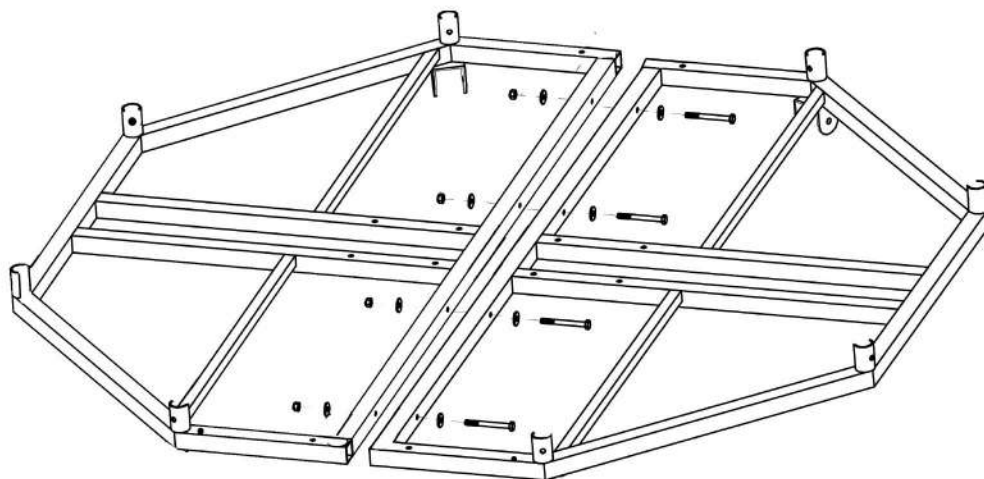

Figure 1.
Step 1. Bolt the 2 parts of the platform together using four 1/4" x 2-3/4" bolts, eight washers and four nuts. Place washers under the head of bolt and nuts as seen in Figure 1.